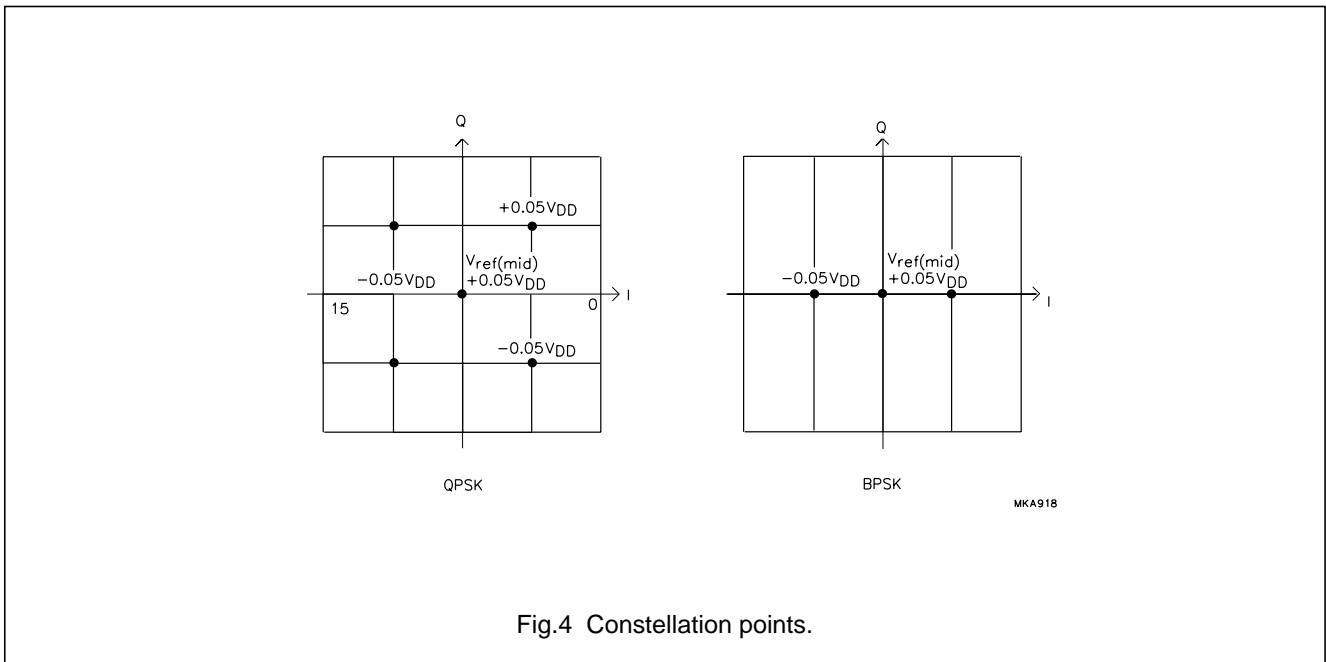

Fig.4 Constellation points.
- Carrier recovery control signal; depending on the selected mode (BPSK or QPSK), this signal will adjust the phase of the I and Q input signal. This adjustment will be such that the constellation points are as defined in Fig.4.
- Amplitude control signals (AGC); this signal adjusts a variable gain amplifier so that the amplitude of the I and Q signals is in accordance with the specified constellation points of Fig.4.